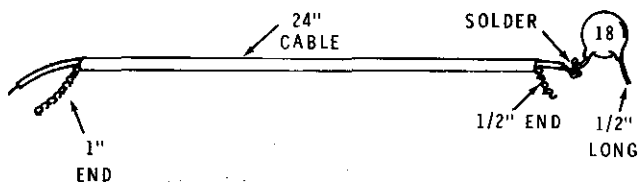

Figure 1-7
- ✓ Refer to Figure 1-7 and solder one lead of the 18 pF disc capacitor to the center conductor at the 1/2" end of the 24" shielded cable prepared earlier.